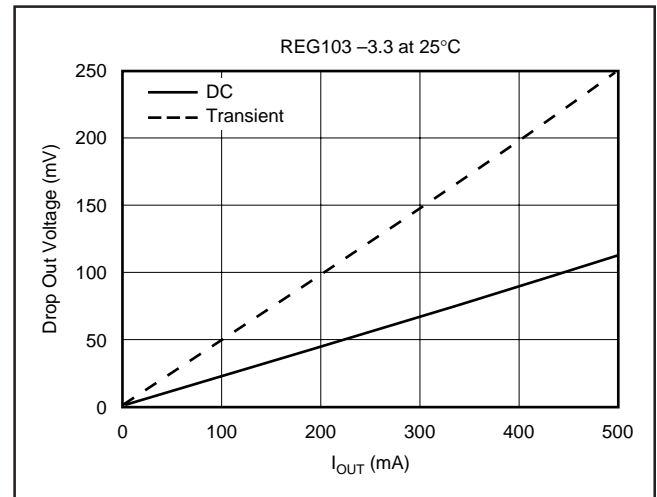

FIGURE 10. Transient and DC Dropout.
regulator's input-to-output resistance is the R_{dsON} of the DMOS pass element (typically $230m\Omega$). For static (DC) loads, the REG103 will typically maintain regulation down to V_{IN} to V_{OUT} voltage drop of $115mV$ at full rated output current. In Figure 10, the bottom line (DC dropout) shows the minimum V_{IN} to V_{OUT} voltage drop required to prevent drop-out under DC load conditions.
For large step changes in load current, the REG103 requires a larger voltage drop across it to avoid degraded transient response. The boundary of this "transient drop-out" region is shown as the top line in Figure 10. Values of V_{IN} to V_{OUT} voltage drop above this line insure normal transient response.